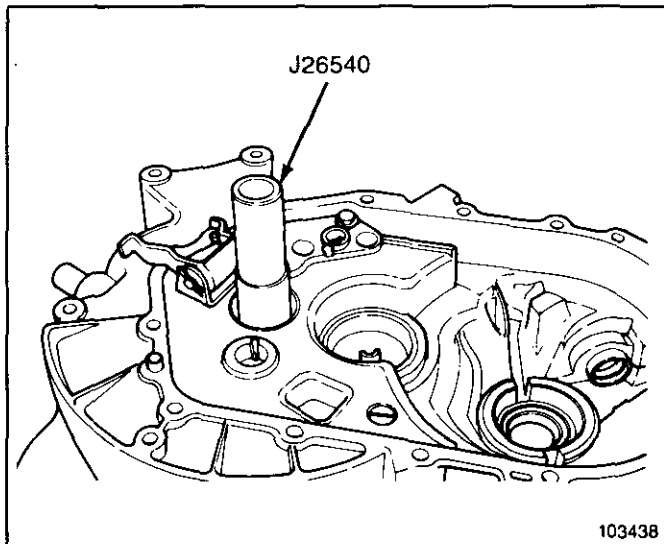

Figure 38 Input Shaft Seal
1. Install a new input shaft seal using J-26540 (Figure 38).